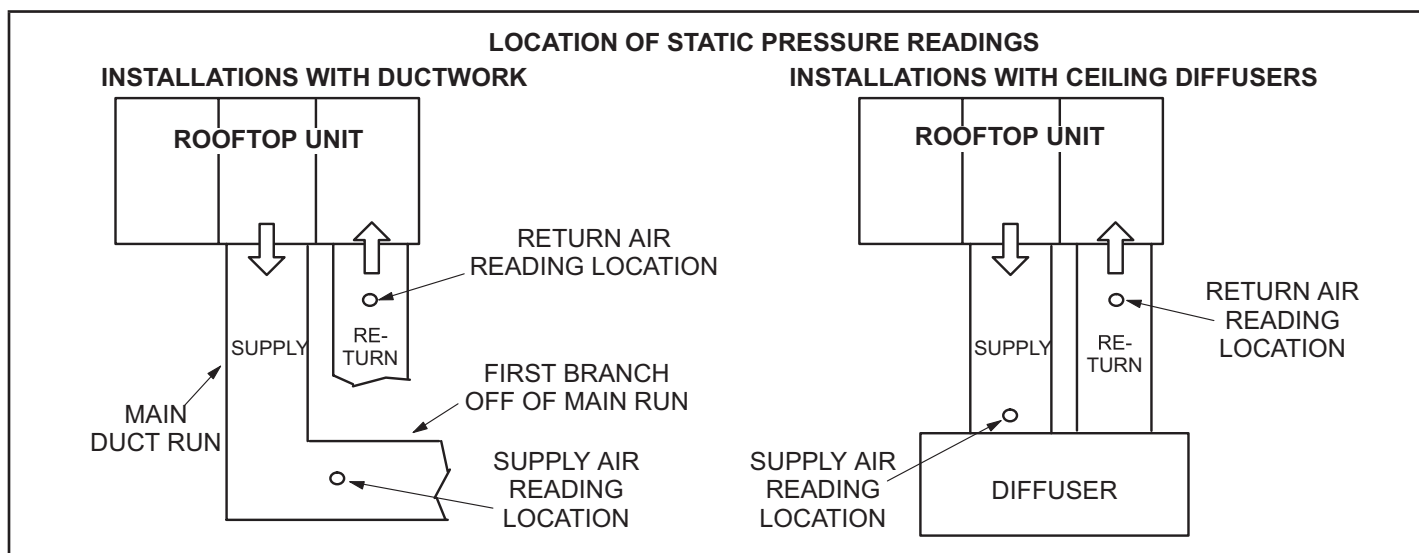

FIGURE 28
- 2 - With all access panels in place, measure static pressure external to unit (from supply to return). Blower performance data is based on static pressure readings taken in locations shown in FIGURE 28.